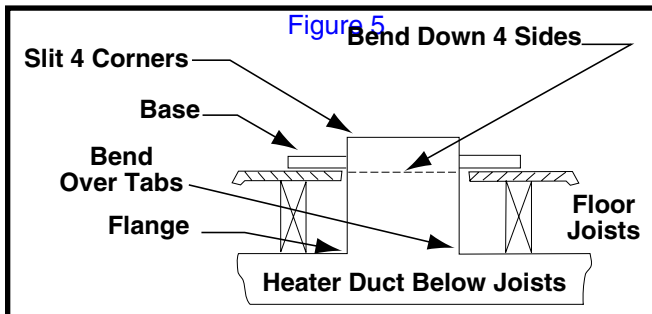

Figure 5. Transition Duct
5. Drop transition duct upside down through the floor opening and center the top of the feeder duct in 14-1/8” x 14-1/8” floor opening as shown in Figure 5 \(page 9\). Using the feeder duct as a guide, mark and cut a 12” x 12” opening in the supply duct.
- Set the universal base in place. Drop transition duct upside down through the floor opening and center the top of the feeder duct in 14-1/8" x 14-1/8" floor opening. See Figure 5 \(page 9\).